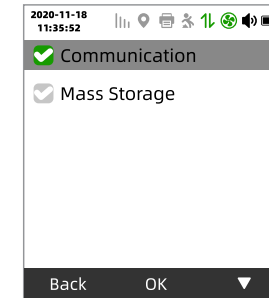

Figure 33
5.7.6.1 USB: used to set the USB interface function (as shown in Figure 33), when the "USB communication" function is selected. After the USB cable is connected to the computer, it can communicate with the computer host computer; when the "USB storage" function is selected, the tester can simulate the TF memory card as a U disk for data viewing after connecting to the computer through the USB cable. After opening the U disk, the file directory content (As shown in Figure 35), after opening the folder (Figure 36), do not change the content of the "information.txt" file, otherwise the data information will be destroyed. "*.csv" saves the data record information of the specific gas. It can be opened and viewed with Excel software. The default setting is the "USB communication" function.